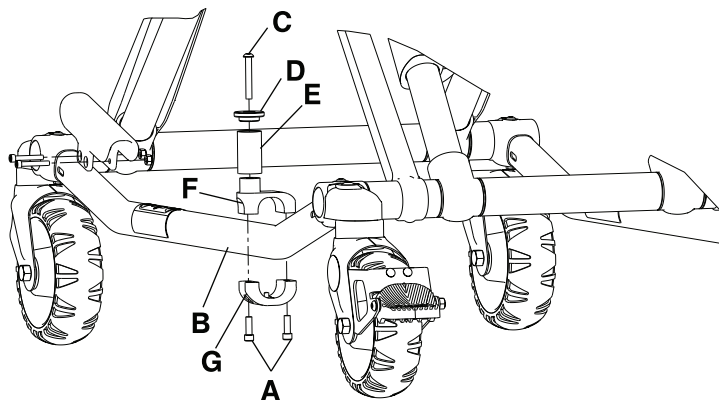

Figure 12: Cot retaining post replacement
3. Using a T30 Torx driver, remove the two socket head cap screws (A) that secure the current cot retaining post to the base tube (B) (Figure 12 on page 38). Discard the screws and cot retaining post.
4. Insert the button head cap screw (C) through the retaining post cap (D) and post tube (E), and then into the top pin bracket (F) (Figure 12 on page 38).
5. Using a 5/32" hex wrench, tighten the button head cap screw (C) completely to secure the retaining post cap (D) and post tube (E) to the top pin bracket (F) (Figure 12 on page 38). Using a torque wrench, torque the screw to 100-140 in-lb.
6. Assemble the cot retaining post across the base tube. Align the holes of the brackets and insert two socket head cap screws (A) into the threaded holes of the bottom pin bracket (G) (Figure 12 on page 38).